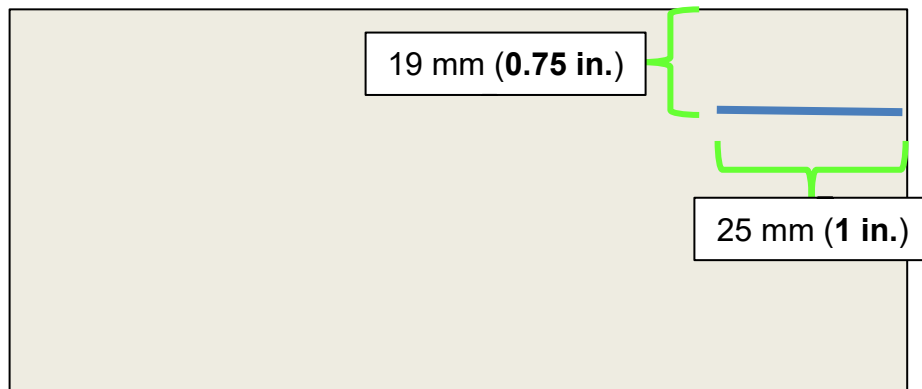

Figure 16
18. On the foil side of one (1) of the four (4) Butyl Patches, measure and mark a line, as shown in Figure 16, and then using scissors cut along the line.